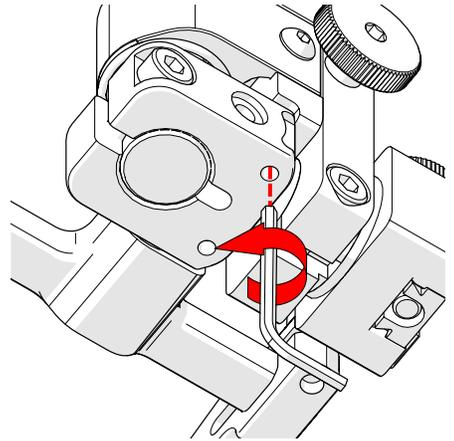

Fig. 95 - Lower 90° stop post
7. Locate the recessed M3 screw on the bottom of the probe holder. Unscrew the stop post using a 1.5 mm hex wrench (Fig. 21) until it has cleared all obstructions. Do not remove the stop post (Fig. 95).